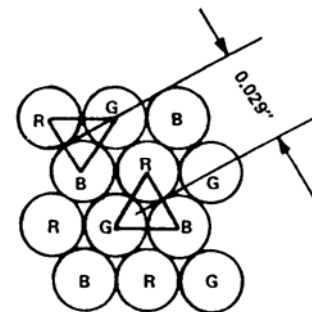

Figure S-12. Phosphorous Dots
(1) It is not necessary to overlap the primary colors in the additive process to produce a different color. Two sources of colors may be placed near each color; at a certain viewing distance the two colors will blend and produce the new color. The eye actually performs the additive process.
(2) The screen of a color CRT contains hundreds of thousands of phosphorous dots arranged in triangular patterns as shown in Figure S-12. Its own electron beam excites each dot. The cluster of dots can emit a white light or any other color depending on the strength of the various electron beams. Due to the limits of vision of our eyes and the process discussed above, we are actually seeing an illusion when we watch our television receiver.